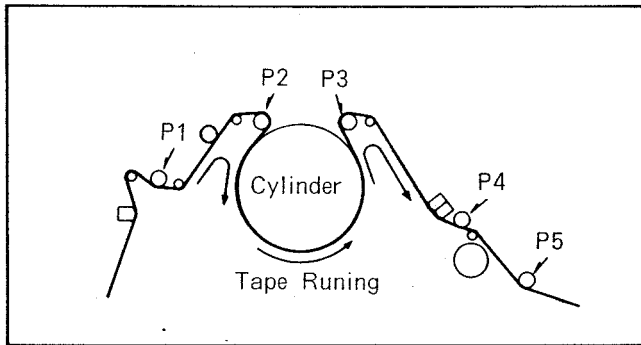
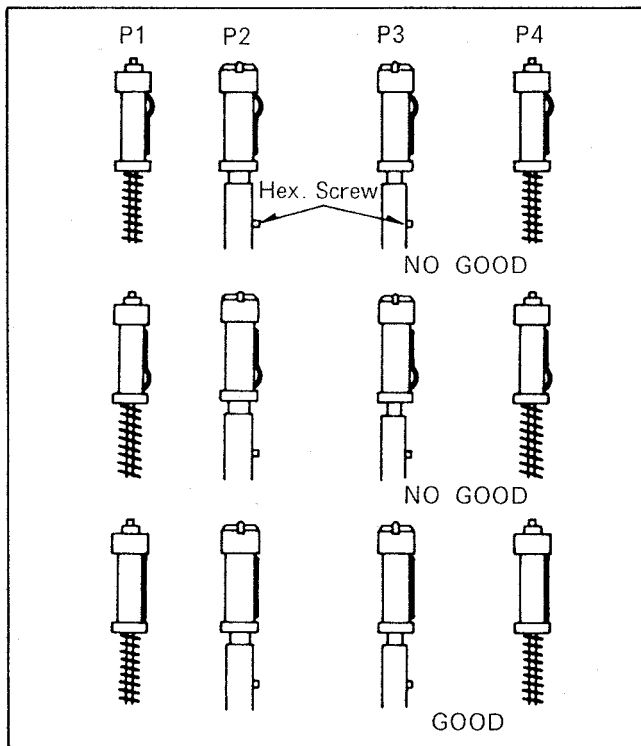

Fig. M4 Tape Transport Posts
Fig. M5 Tape Guide Posts
1. To prevent the alignment tape from being damaged, use a normal cassette tape for this procedure. Playback the normal cassette tape and confirm that the tape travels without any curling at the edges of all the posts by using the check light. (Fig. M4 and Fig. M5)
2. If curling is apparent, adjust the height of posts by turning the top of post with the post adjustment screwdriver (posts P2 and P3) or the nut-driver (Posts P1 and P4). (Fig. M4 and M5)